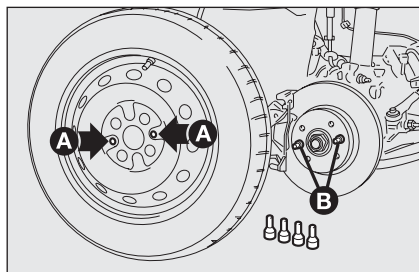

fig. 11
- ☐ fit the standard wheel by inserting the first stud **B-fig. 11** for two threads in the hole closest to the inflation valve **A**;
- ☐ Install the wheel making sure that the holes **A-fig. 11** match the corresponding centring pins **B**.